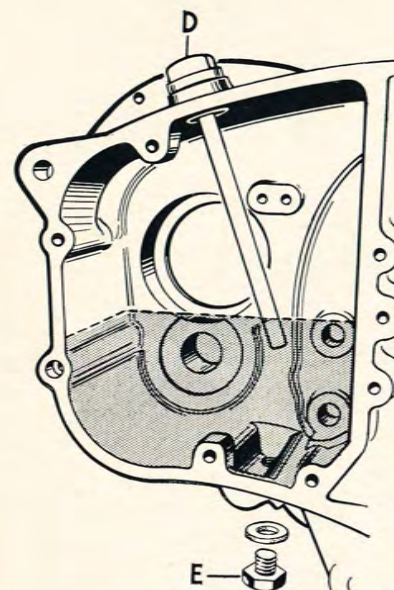

Fig. 20.
Apart from topping-up at regular intervals, very little maintenance should be required. The filler cap also serves as a breather, and after checking the oil level by means of the dipstick (D), Fig. 20 (supplied as a separate item), the normal filler cap must be replaced.
To drain the case, which should preferably be undertaken while the oil is warm after a run, unscrew the drain plug (E) Fig. 20, below the case. When replacing, make sure that the sealing ring is in good condition otherwise there may be a leakage of oil. The capacity of the gearbox is approximately $\frac{5}{8}$ U.S. pint ($\frac{1}{2}$ British pint), and suitable oils are detailed on page 24.